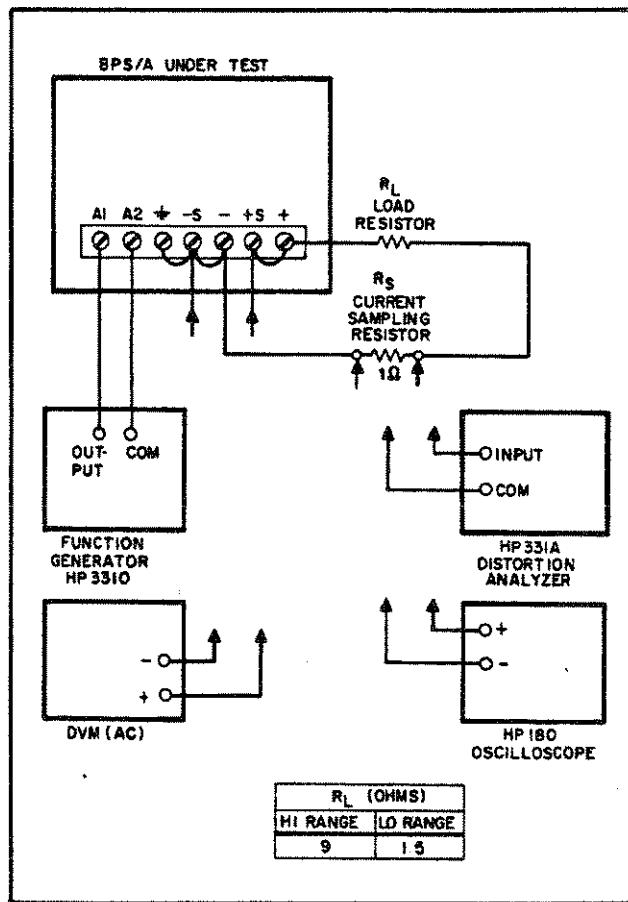

Figure 5-16. Amplifier Mode Test Setup
a. Connect the test setup as shown in Figure 5-16. Use the appropriate low range load resistor ( $R_L$ ).
- a. Connect the test setup as shown in Figure 5-16.